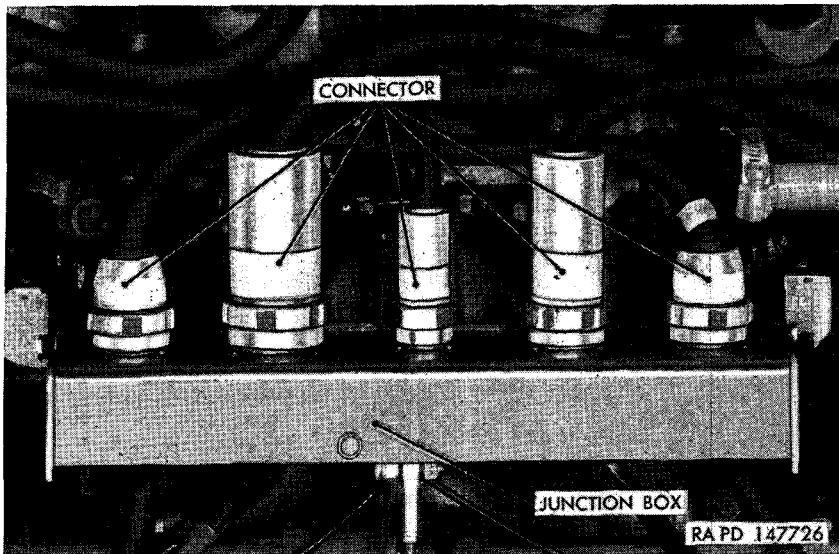

Figure 183. Engine wiring junction box—top view.
c. **ENGINE WIRING JUNCTION BOX** (fig. 183). The engine wiring junction box provides for the connection and disconnection of electrical circuits from the instrument panel and master junction box to the engine and transmission electrical units. It is mounted above the accessory case on the main engine (fig. 130). Two brackets (one on each side) are provided for mounting the box to studs on the accessory case. Procedures for removal and installation of this box are covered in paragraph 195.